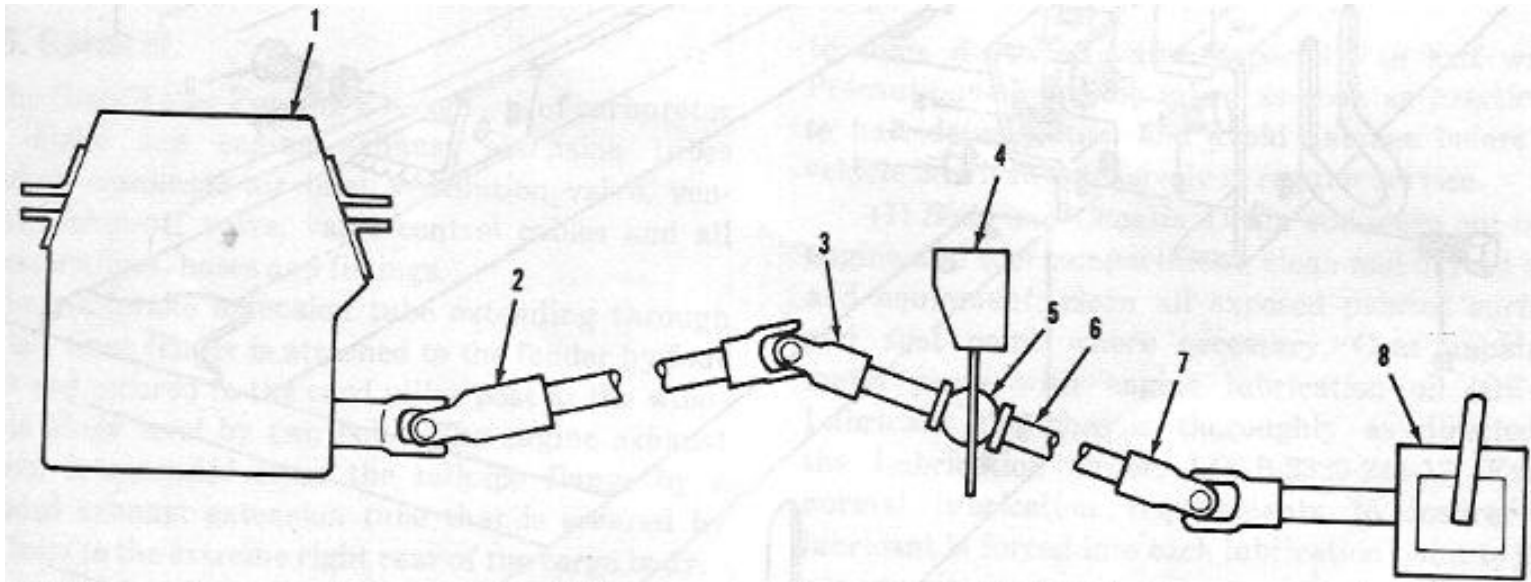

Figure 3-1 Winch driveshafts and joints.
a. Driveshaft and Universal Joints. (Fig 3-1)
- (1) Remove cotter pin from shearpin.
- (2) Remove shearpin from winch driveshaft and winch input shaft.
(3) Loosen setscrew which secures driveshaft to winch input shaft and slide universal joint yoke slip joint rearward on driveshaft and disengage driveshaft from winch input shaft.
(4) Remove nut, lock washer and bolt which secures driveshaft to power take-off output shaft.
(5) Slide driveshaft forward and disengage from power take-off output shaft.
- (1) Slide driveshaft on power take-off output shaft. Install bolts, lock washer and nut which secures driveshaft to power take-off output shaft. Tighten securely.
- (2) Position driveshaft to winch input shaft and slide slip joint yoke forward.
- (3) Line up holes and install shearpin through universal joint yoke and winch input shaft.
- (4) Install cotter pin in shearpin.